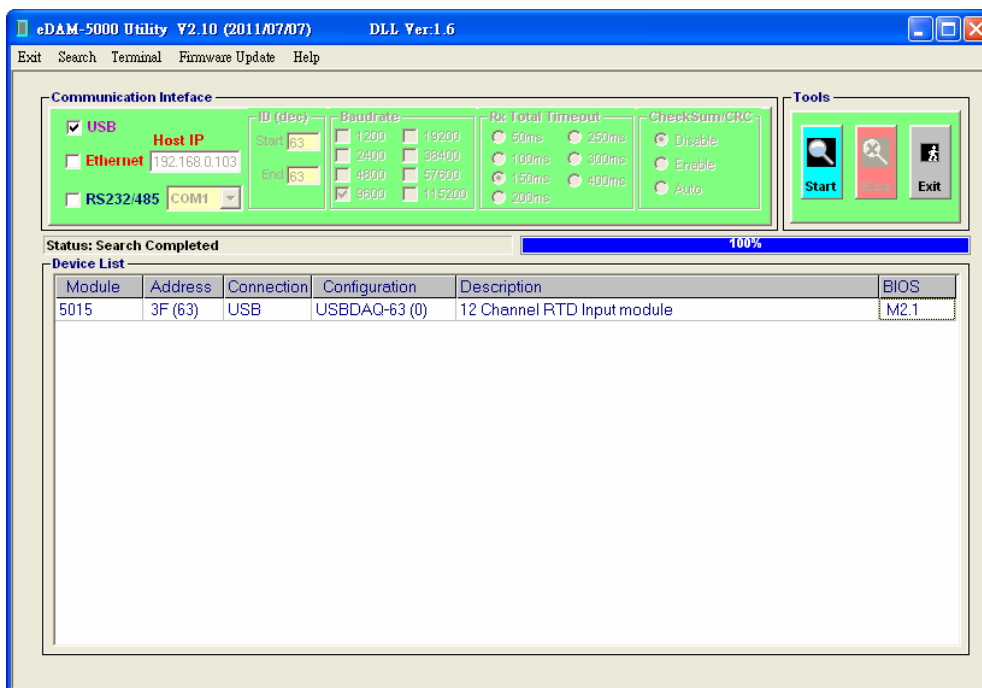

Figure -3
3. Executes provided EDAM-5000 utility called "E5KUtility.exe" (see Figure -3)